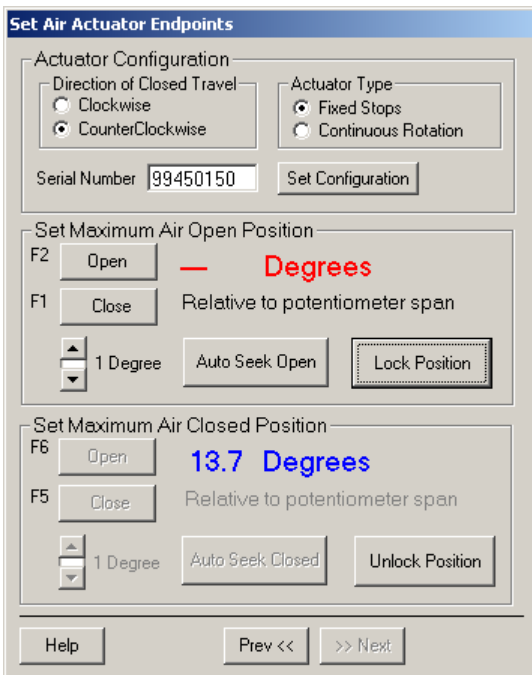

Fig. 11. Auto seek open to actuator mechanical open fixed stop.
- 7. Auto seek open to actuator mechanical open fixed stop. See Fig. 11.